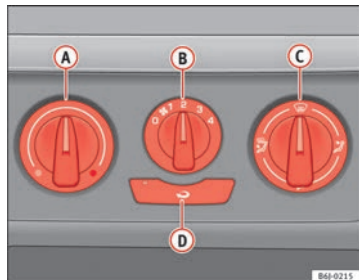

Fig. 91 Heating controls on the dash panel
- Turn the temperature selector **(A)** ⇒ fig. 91 anti-clockwise.
- Turn the temperature selector **(A)** ⇒ fig. 91 clockwise to select the desired temperature.
- Turn the temperature selector **(A)** ⇒ fig. 91 clockwise to reach the maximum temperature.
- Turn the temperature selector **(A)** ⇒ fig. 91 to the heating area. ▶